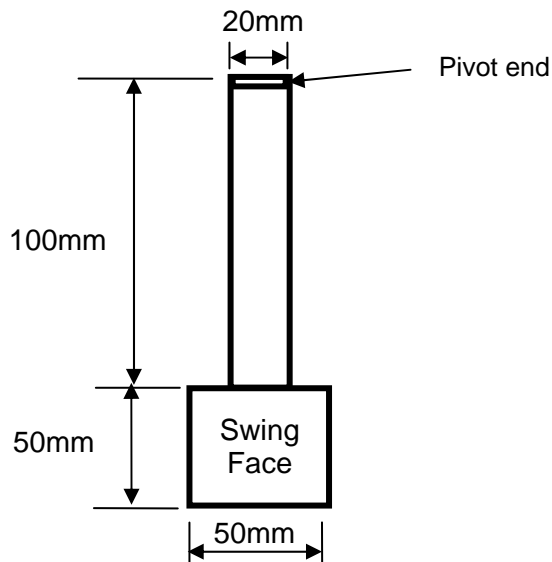

Fig 2 - Swing End Effector
1. The dimension of the Golf Club is as shown in Fig 2.